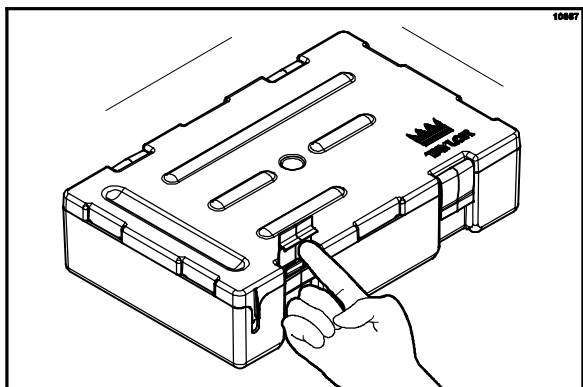

Figure 18
3. Unsnap all the fasteners and remove the lid from the concentrate container. (See Figure 18.)